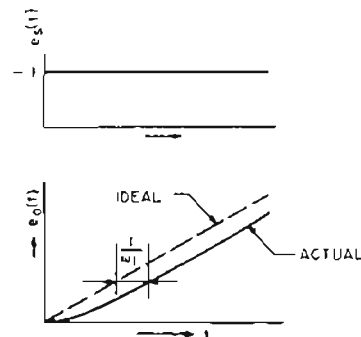

Figure 5. Step Response of Integrator at  $t = 0$
This is the equation for an ideal integrator except for a time lag which is inversely proportional to the unity gain bandwidth,  $\omega_1$ . To illustrate the error due to finite bandwidth, consider the response of (3) to a step function input as given by (4) and Figure 5.